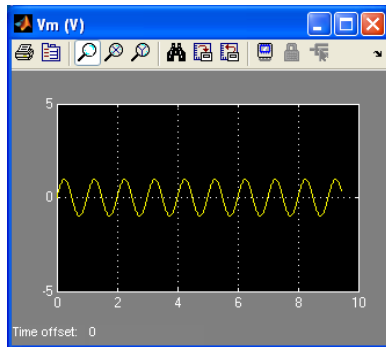
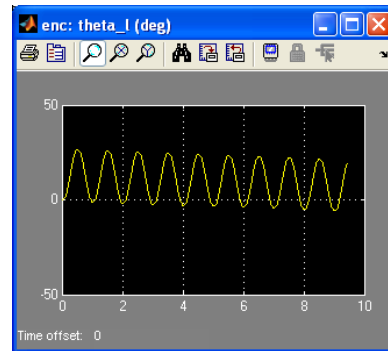

Figure A.16: Sinusoidal input voltage.
Figure A.17: Position reading using encoder.
12. The measurement will be very small. Click on the *Autoscale* icon in the scope to zoom up on the signal or adjust the range of the y-axis manually. The input voltage and position scopes should appear similarly as shown in Figure A.16 and Figure A.17. Note that no further calibration is needed since the encoder position increases when the input voltage goes positive.